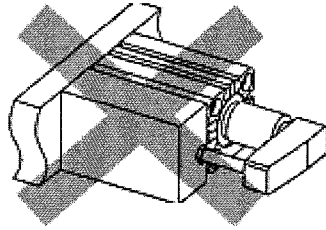

Figure 1
- (1) Make sure to mount the cylinder in a vertical direction. (See Figure 1.) (MK, MK2 only)